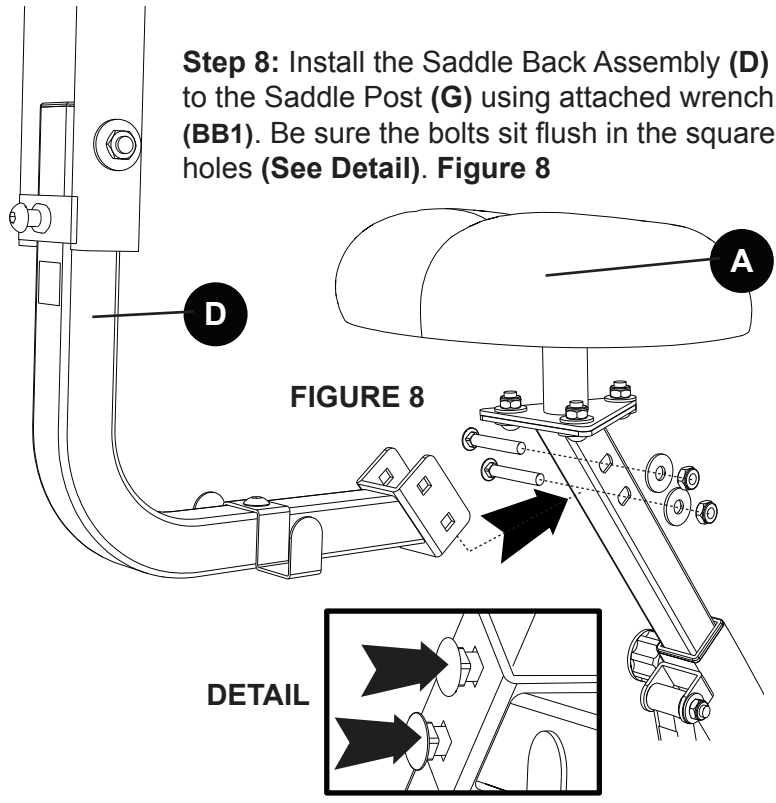

FIGURE 8
Step 8: Install the Saddle Back Assembly (D) to the Saddle Post (G) using attached wrench (BB1). Be sure the bolts sit flush in the square holes (See Detail). Figure 8